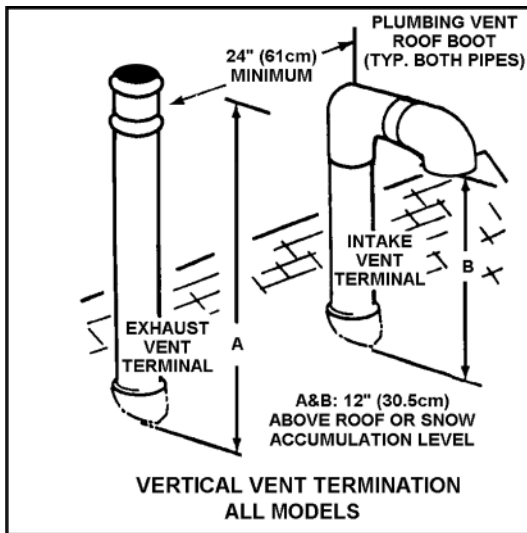

Figure: 17
4. The center line of the air intake termination and the center line of the exhaust vent termination must be no closer than 24" (61cm). See Figure 17 and Figure 18.